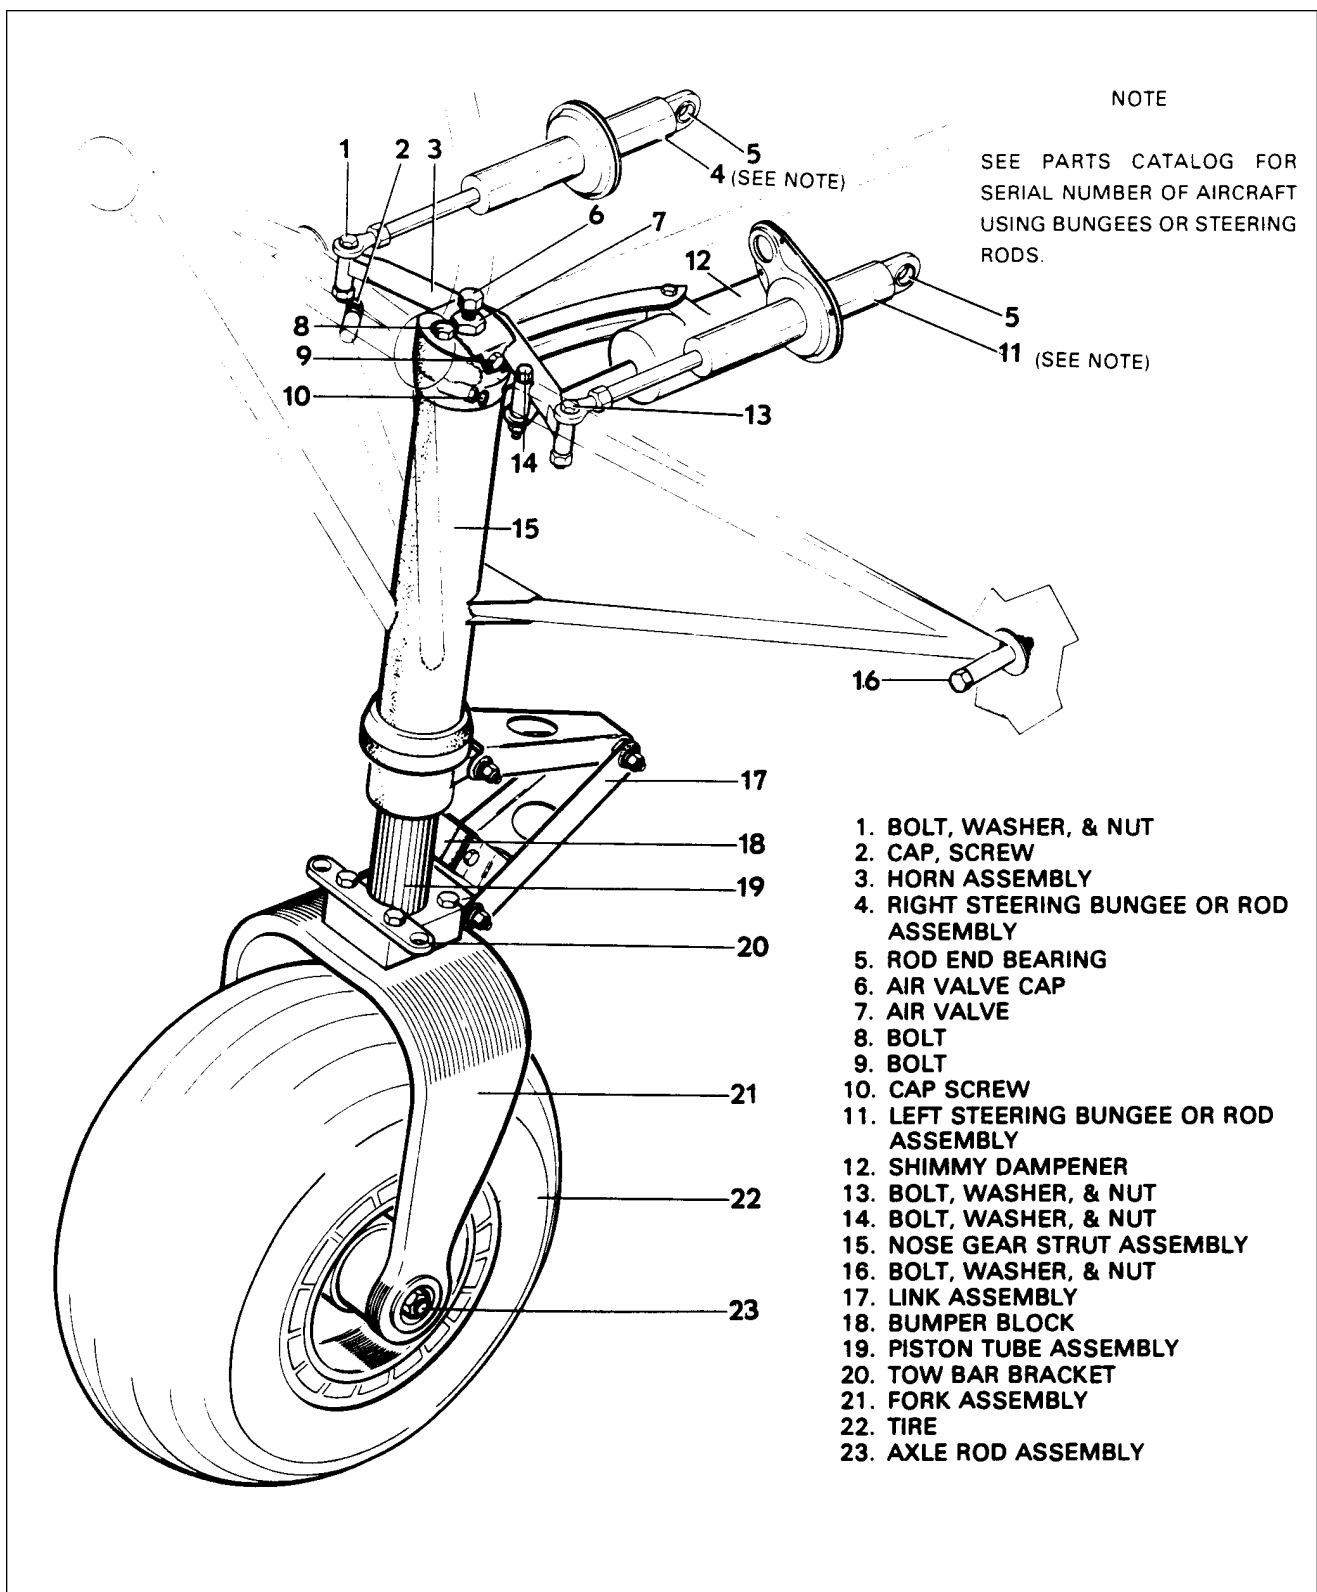

Figure 32-6. Nose Gear Installation
E. REMOVAL OF NOSE LANDING GEAR (Refer to Figure 32-6.)
G. INSTALLATION OF NOSE LANDING GEAR (Refer to Figure 32-6.)